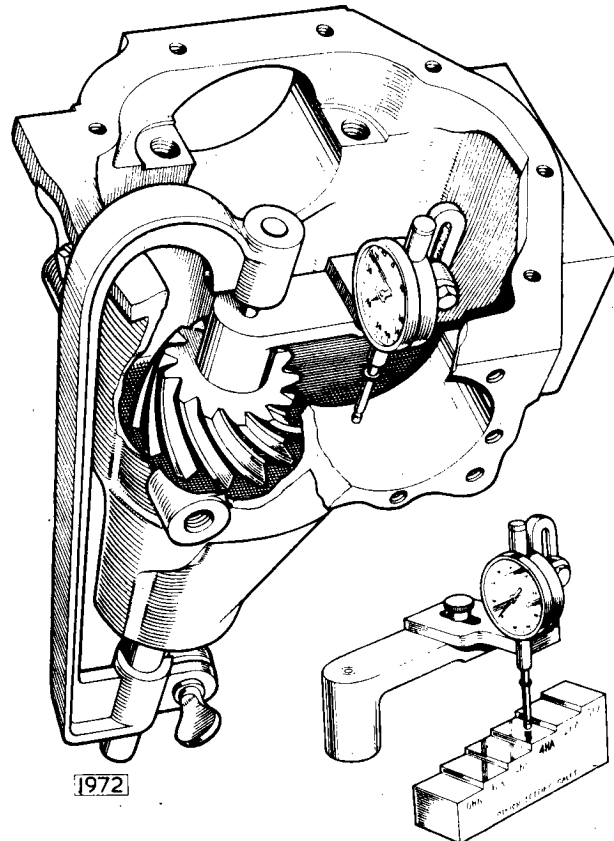

Fig. 34. Checking the pinion cone setting using Churchill Tool SL 3 P (with the later type of magnetic dial gauge post the clamp fixture is not required)
- (5) Fit pinion outer bearing inner race, companion flange, washer and nut only, omitting the oil slinger and oil seal assembly, and tighten the nut.
- (6) Check the pinion cone setting distance by means of the gauge, Tool No. SL.3P, as shown in Fig. 34. The procedure for using the gauge is:—